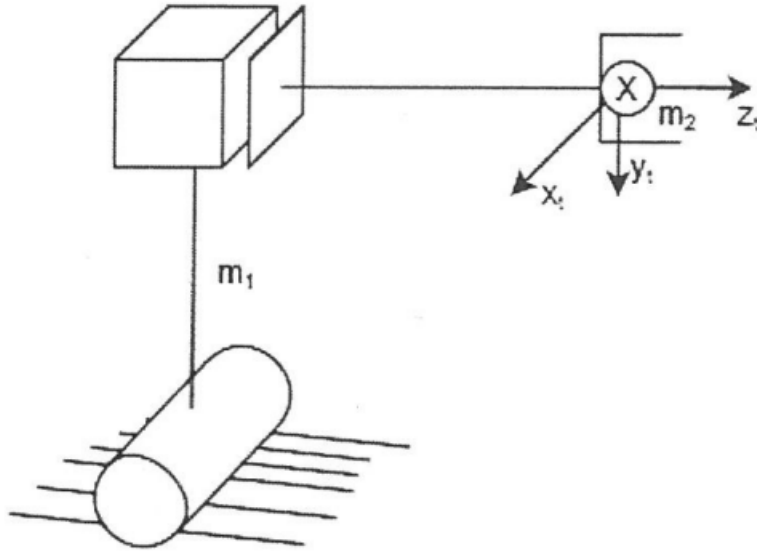

Figure 3: Simplified robot
Figure 3 shows a planar robot with two degrees of freedom. This is a simplification of the robot in Task 2, where joint 1, link 1 and the offset L_{off} are not in use. Assume that link 1 has a length L_2 and a uniformly distributed mass m_1 with the following inertia tensor:
a) (10%) Find the Lagrangian \mathcal{L} of the robotic system in Figure 3.